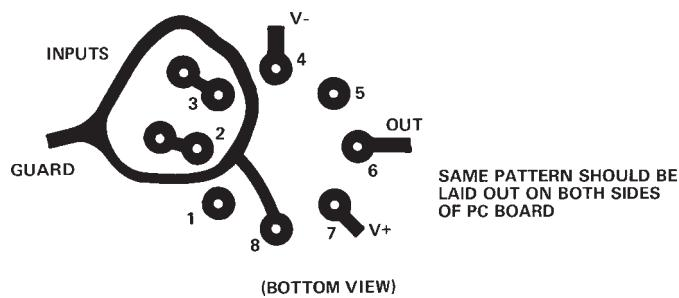
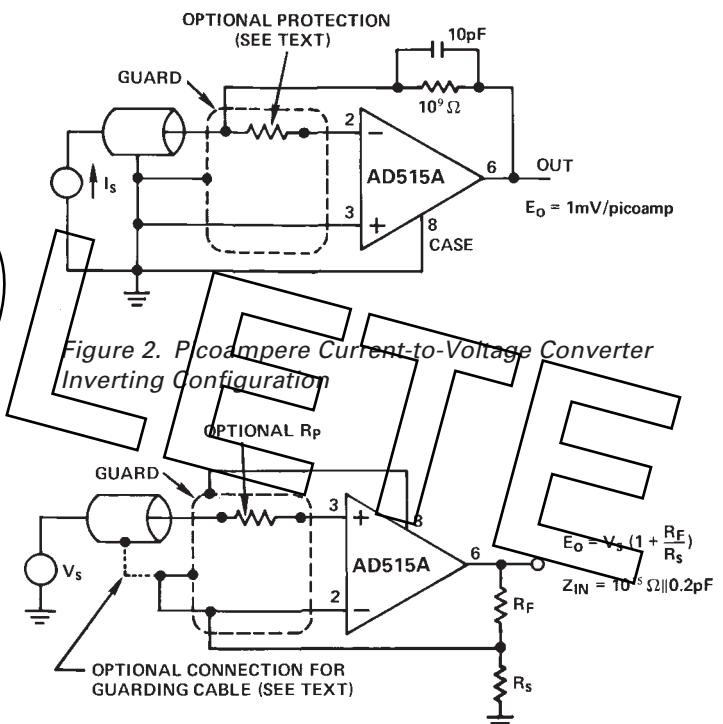

Figure 1. Board Layout for Guarding Inputs with Guarded TO-99 Package
Figure 2. Picoampere Current-to-Voltage Converter Inverting Configuration
2. The use of guarding techniques is essential to realizing the capability of the ultraslow input currents of the AD515A. Guarding is achieved by applying a low impedance bootstrap potential to the outside of the insulation material surrounding the high impedance signal line. This bootstrap potential is held at the same level as that of the high impedance line; therefore, there is no voltage drop across the insulation and, hence, no leakage. The guard will also act as a shield to reduce noise pickup and serves an additional function of reducing the effective capacitance to the input line. The case of the AD515A is brought out separately to Pin 8 so it can also be connected to the guard potential. This technique virtually eliminates potential leakage paths across the package insulation, provides a noise shield for the sensitive circuitry and reduces common-mode input capacitance to about 0.8 pF. Figure 1 shows a proper printed circuit board layout for input guarding and connecting the case guard. Figures 2 and 3 show guarding connections for typical inverting and noninverting applications. If Pin 8 is not used for guarding, it should be connected to ground or a power supply to reduce noise.
3. Printed circuit board layout and construction is critical for achieving the ultimate in low leakage performance that the AD515A can deliver. The best performance will be realized by using a teflon IC socket for the AD515A; at a minimum a teflon standoff should be used for the high impedance lead. If this is not feasible, the input guarding scheme shown in Figure 1 will minimize leakage as much as possible; the guard ring should be applied to both sides of the board. The guard ring is connected to a low impedance potential at the same level as the inputs. High impedance signal lines should not be extended for any unnecessary length on a printed
Many instrumentation situations, such as flame detectors in gas chromatographs, involve measurement of low level currents from high voltage sources. In such applications, a sensor fault condition may apply a very high potential to the input of the current-to-voltage converting amplifier. This possibility necessitates some form of input protection. Many electrometer type devices, especially CMOS designs, can require elaborate Zener protection schemes that often compromise overall performance. The AD515A requires input protection only if the source is not current limited and, as such, is similar to many JFET-input designs. The failure mode would be overheating from excess current rather than voltage breakdown. If the source is not current limited, all that is required is a resistor in series with the affected input terminal so that the maximum overload current is 0.1 mA (for example, 1 MΩ for a 100 V overload). This simple scheme will cause no significant reduction in performance and give complete overload protection. Figures 2 and 3 show proper connections.
The conductor-to-shield capacitance of coaxial cable is usually about 30 pF/foot. Charging this capacitance can cause considerable stretching of high impedance signal rise time, thus cancelling the low input capacitance feature of the AD515A. There are two ways to circumvent this problem. For inverting signals or low level current measurements, the signal is carried on the line connected to the inverting input and shielded (guarded) by the ground line as shown in Figure 2. Since the signal is always at virtual ground, no voltage change is required and no capacitances are charged. In many circumstances, this will destabilize the circuit; if so, capacitance from output to inverting input will stabilize the circuit.
Figure 2 shows a standard low level current-to-voltage converter. To obtain higher sensitivity, it is obvious to simply use a higher value feedback resistor. However, high value resistors above $10^9 \Omega$ tend to be expensive, large, noisy and unstable. To avoid